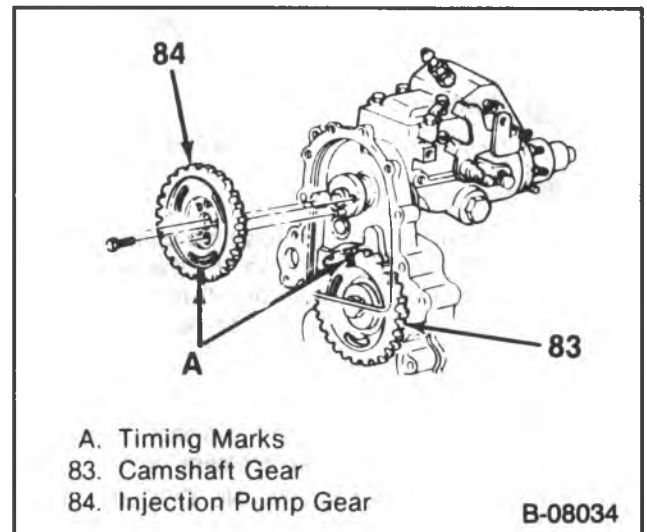

Figure 16 — Injection Pump Gear and Timing Marks
- Rotate the engine until the timing marks on the pump gear and camshaft gear are aligned (figure 16).
5. Injection pump gear and bolts. Align the timing marks (figure 16).
- Align the timing marks (figure 16).